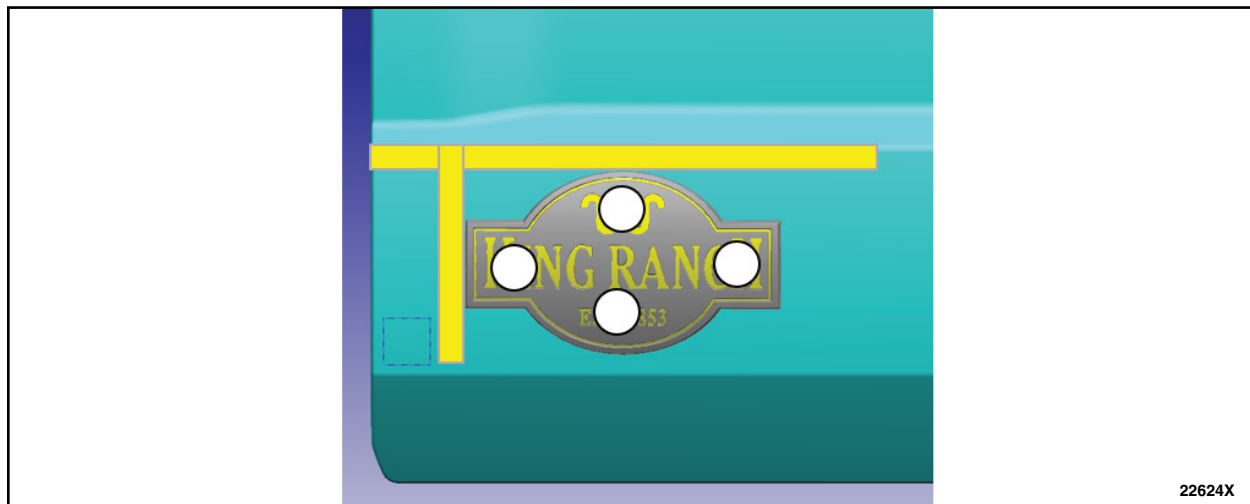

FIGURE 11
40. Remove the tape liner from the back of the badge and install to the door using the locating tape to properly align the badge. See Figure 11.
41. Using medium hand pressure, press for 3 seconds at a minimum of 4 separate locations along the length of the badge until the tape is fully adhered. See Figure 11.